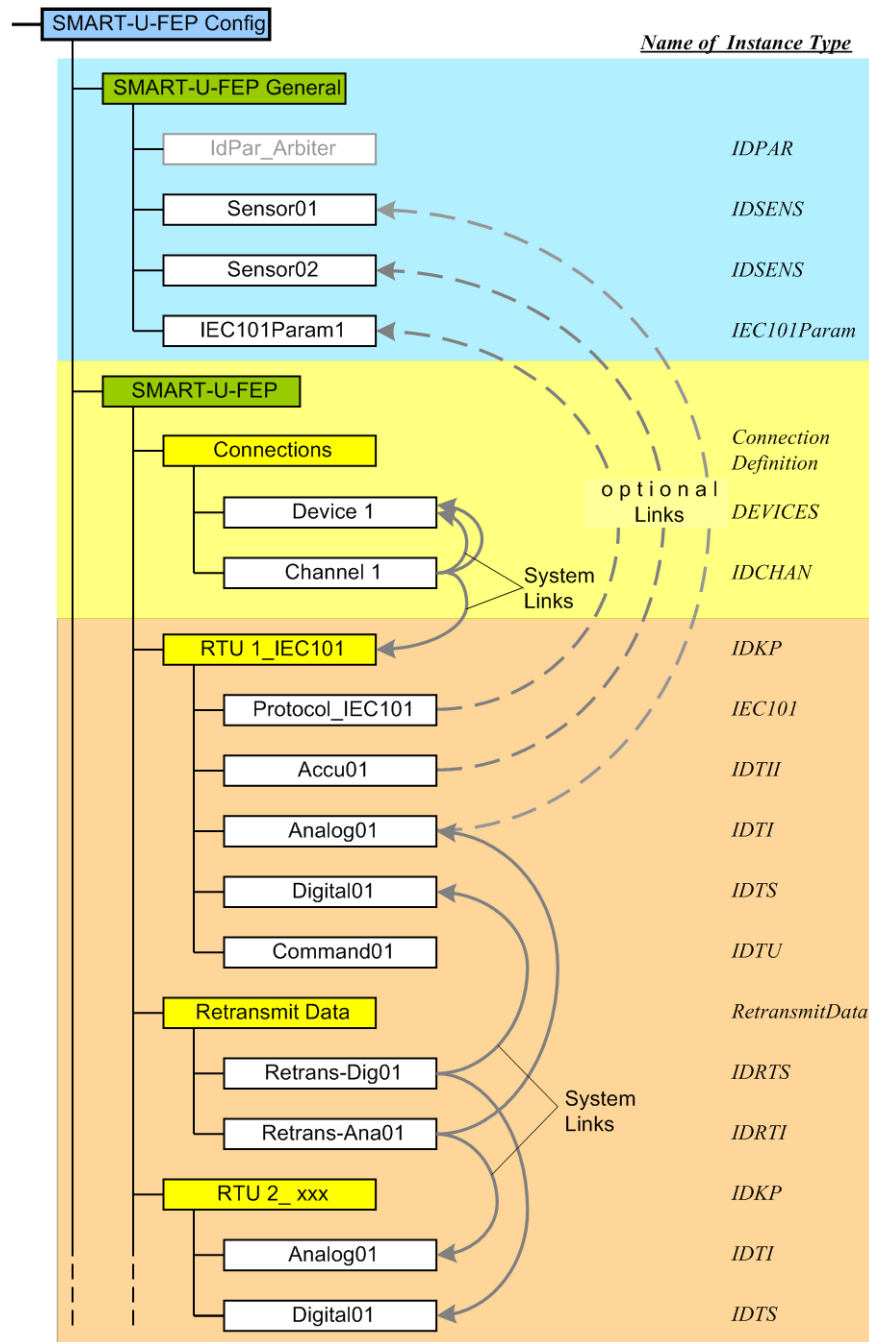

Figure 3-6.6: SMART-U-FEP, Details of "Connections" and "RTUs"
- SMART-U-FEP, Details of "Connections" and "RTUs" (Figure 3-6.6)